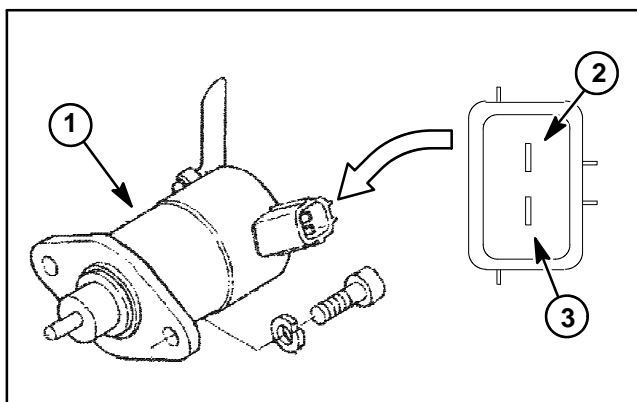

Figure 56
4. Using a digital multimeter (ohms setting), touch one test lead to the pull coil terminal and the other test lead to the fuel stop solenoid frame (ground) (Fig. 56). The resistance of the pull coil should be less than 1 ohm (but not zero).
5. Using a digital multimeter (ohms setting), touch one test lead to the hold coil terminal and the other test lead to the fuel stop solenoid frame (ground) (Fig. 56). The resistance of the hold coil should be approximately 15 ohms.